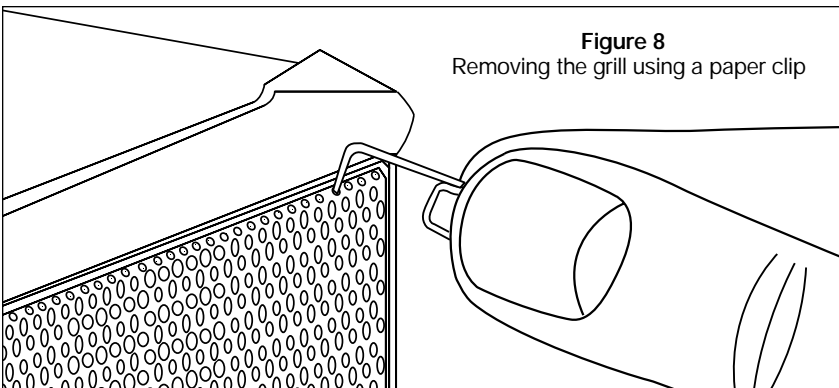

Figure 8
1. Separate the parts of the speaker. You should remove the brackets and the bracket knobs. Remove the grill by hooking it with a bent paper clip or the tip of a corkscrew and pulling it away from the cabinet (**See Figure 8**).